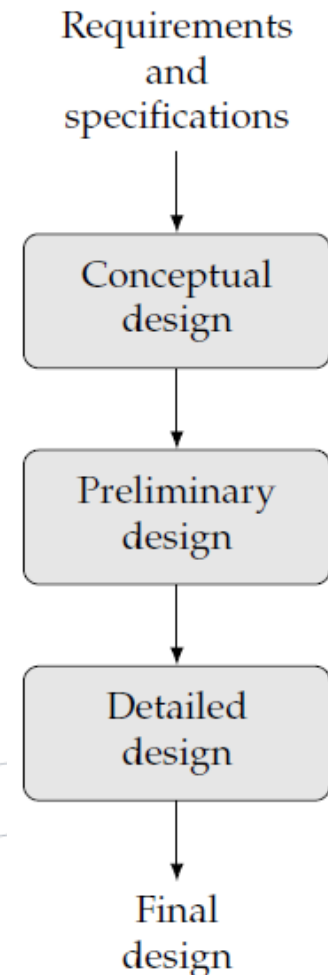

Figure 1.01 Design process.
- Fig. 1.01 shows a high-level schematic of the design process.